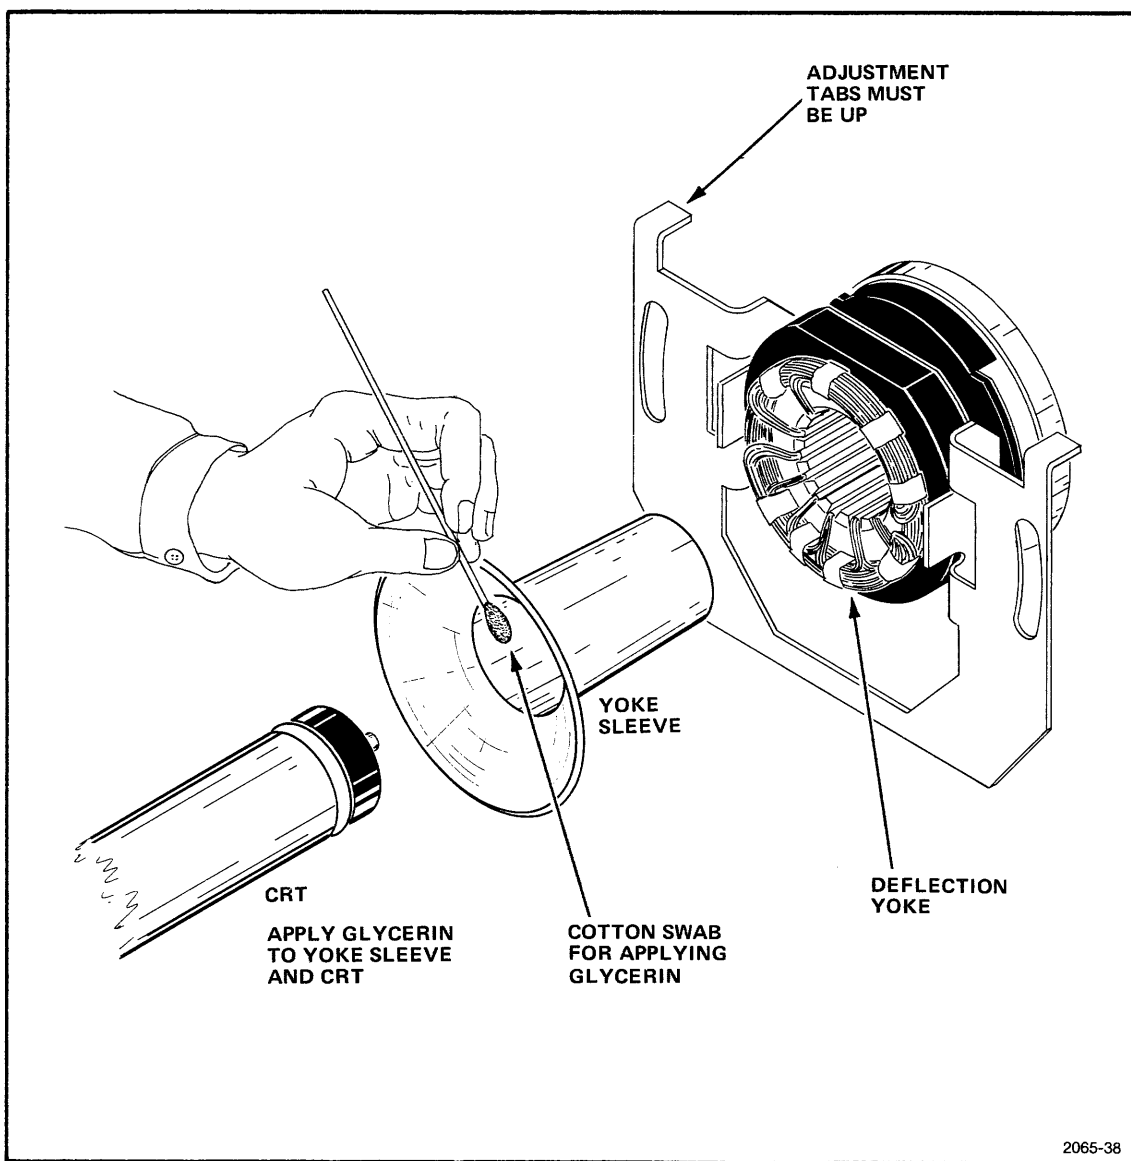

Fig. 3-20. Lubrication and installation of the crt as part of the installation procedure.
2. Insert the small neoprene ring (yoke sleeve) into the deflection yoke and lubricate the inner surface with *glycerin*. Use a swab and *avoid getting any lubricant onto the circuit boards* in the base of the 4051. Very little glycerin is required (Fig. 3-20).